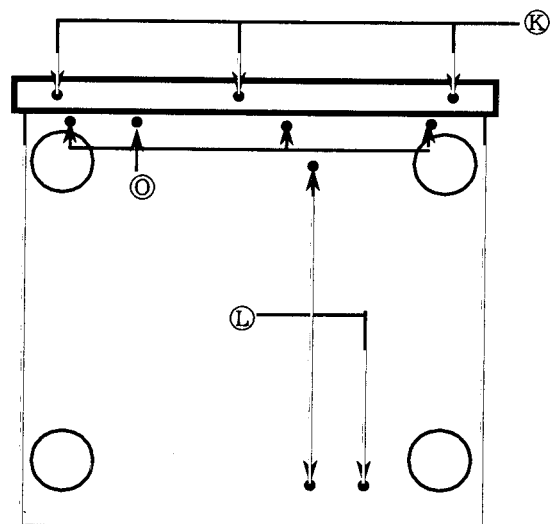

FIG.4 Bottom side
4. Remove 4 screws **O**.(FIG.4)
5. Remove 3 screws **L**.(FIG.4)